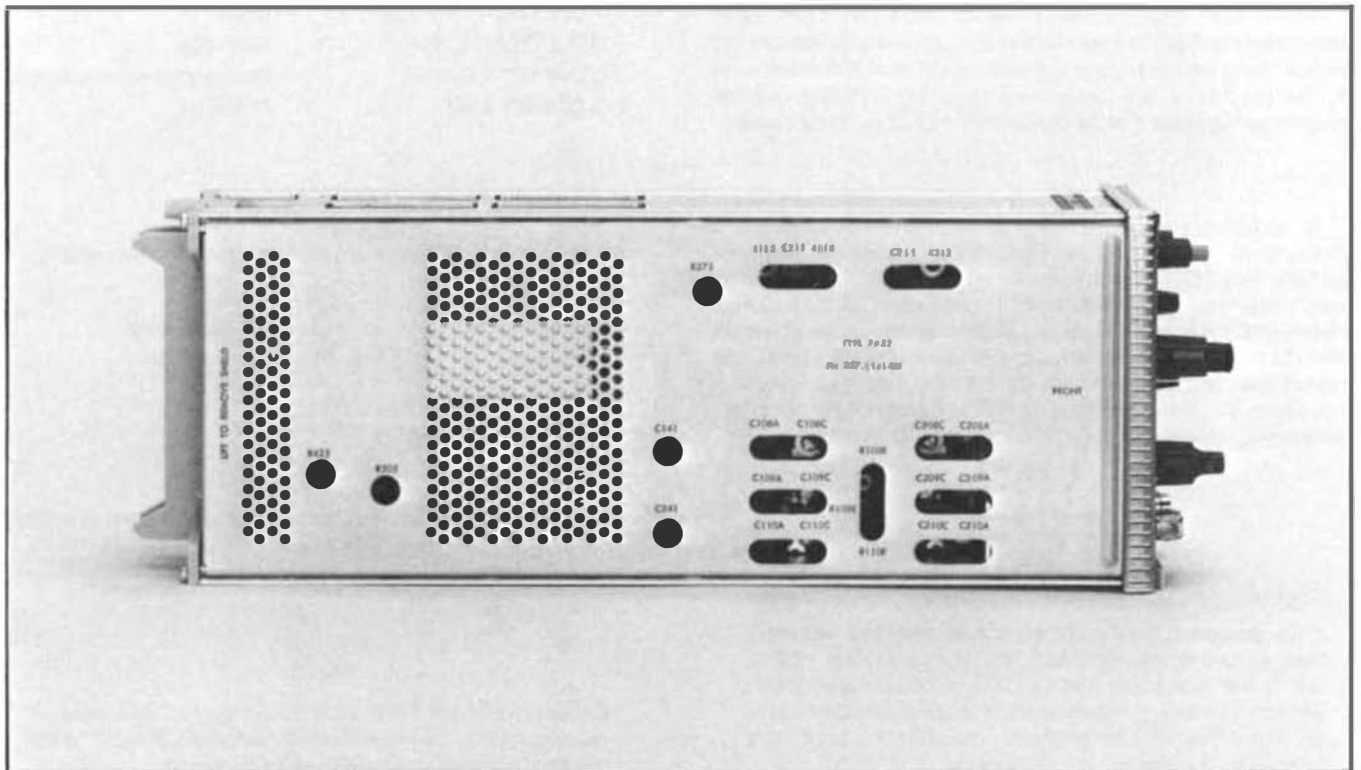

Fig. 5-1. Left side of the 7A22 showing adjustment locations.
- d. ADJUST—AC Step Atten Bal control, R505, (see Fig. 5-1) to position the trace within 1.5 div of graticule center.
- e. ADJUST—Variable Bal control, R425, (see Fig. 5-1) for no trace shift while rotating the VARIABLE control.
- d. ADJUST—Coarse DC Bal, R275, (see Fig. 5-1) to position the trace to graticule center.
- ADJUST—The +Gate Current Zero control, R115, (see Fig. 5-1), to position the trace to graticule center.
- ADJUST—The -Gate Current Zero control, R215, (see Fig. 5-1), to return the trace to graticule center.